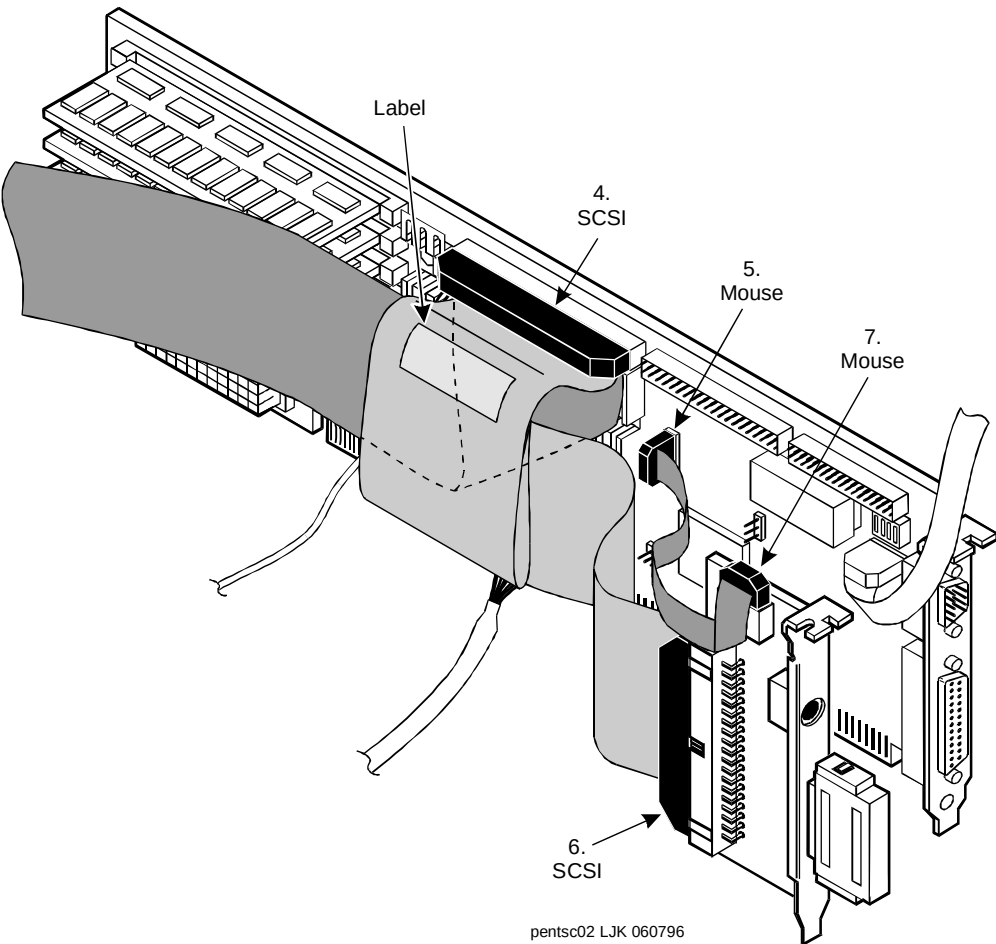

Figure 5-70. Attaching Cables to the P5 120 MHz CPU Circuit Card - Part 2
10. Attach the SCSI cable to the SCSI controller pins on the P5 120 MHz CPU circuit card (Figure 5-70).
The SCSI cable has a label (Figure 5-70) that contains the following message :
The SCSI cable will be routed over top of the disk activity cable (Figure 5-70).
11. Attach the mouse cable to the P5 120 MHz CPU circuit card (Figure 5-70).
12. Attach the SCSI cable to the external SCSI connector circuit card (Figure 5-70).